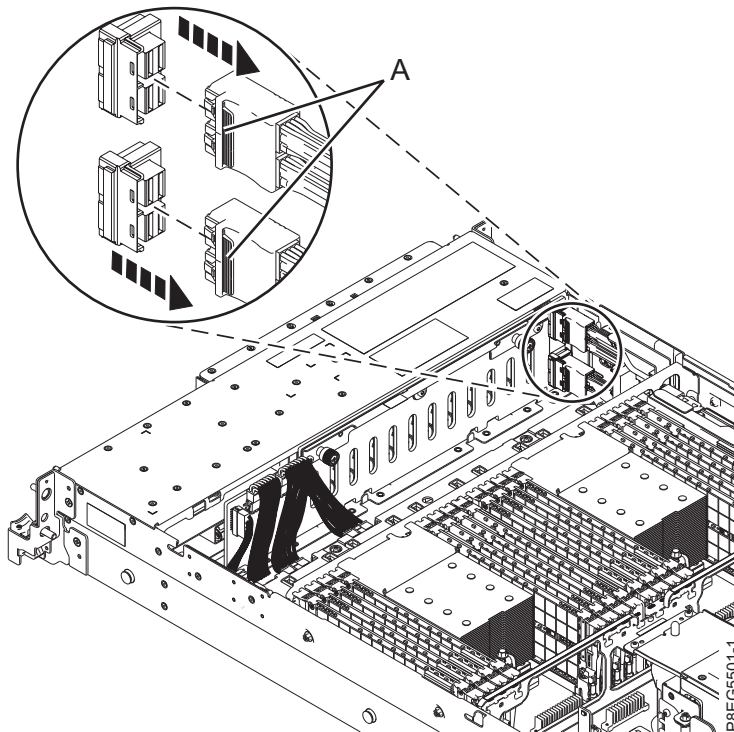

Figure 2. Disconnecting the front SAS cables
3. Label the front SAS cables, paying attention to the connectors each cable attaches to on the disk drive backplane and the SAS RAID internal adapter. Disconnect the front SAS cables from the disk drive backplane by pressing the latch (A) and unplugging the cable. For details, see Figure 2.